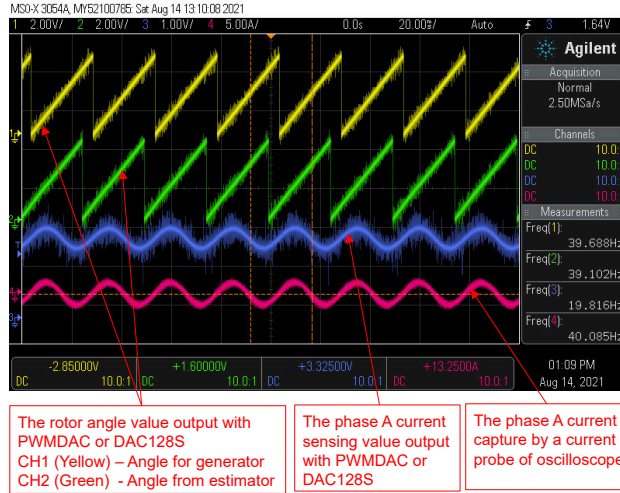

Figure 2-39. Build Level 3: Motor Rotor Angle and Phase Current Waveforms on Oscilloscope
4. Connect oscilloscope probes to the EPWMDAC or DAC128S outputs and motor phase line to probe the angles and current signals, and current. These waveforms on the oscilloscope appear as shown in Figure 2-39. Change the `Idq_set_A.value[1]` in the Expressions window to set the reference torque current, the motor phase current will be increasing with the same percentage accordingly.
Use DAC128S085EVM with an oscilloscope to monitor rotor angle of the motor from the angle generator and rotor angle from the FAST estimator, and a phase current of the motor as shown in Figure 2-39.